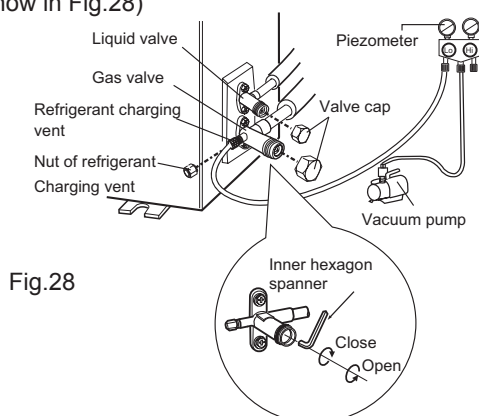

Fig.28
- (1) Remove the valve caps on the liquid valve and gas valve and the nut of refrigerant charging vent.
- (2) Connect the charging hose of piezometer to the refrigerant charging vent of gas valve and then connect the other charging hose to the vacuum pump.
- (3) Open the piezometer completely and operate for 10-15min to check if the pressure of piezometer remains in -0.1MPa.
- (4) Close the vacuum pump and maintain this status for 1-2min to check if the pressure of piezometer remains in -0.1MPa. If the pressure decreases, there may be leakage.
- (5) Remove the piezometer, open the valve core of liquid valve and gas valve completely with inner hexagon spanner.
- (6) Tighten the screw caps of valves and refrigerant charging vent.(As show in Fig.28)